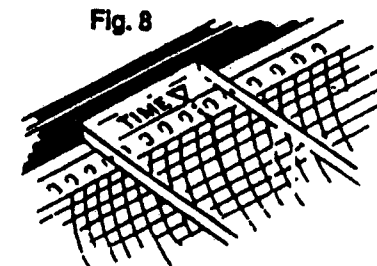

Fig. 8
- Line up time arrow (see fig. 8) with any line on the left of the chart paper.
8. Mark time of start on strip chart. See fig. 8.